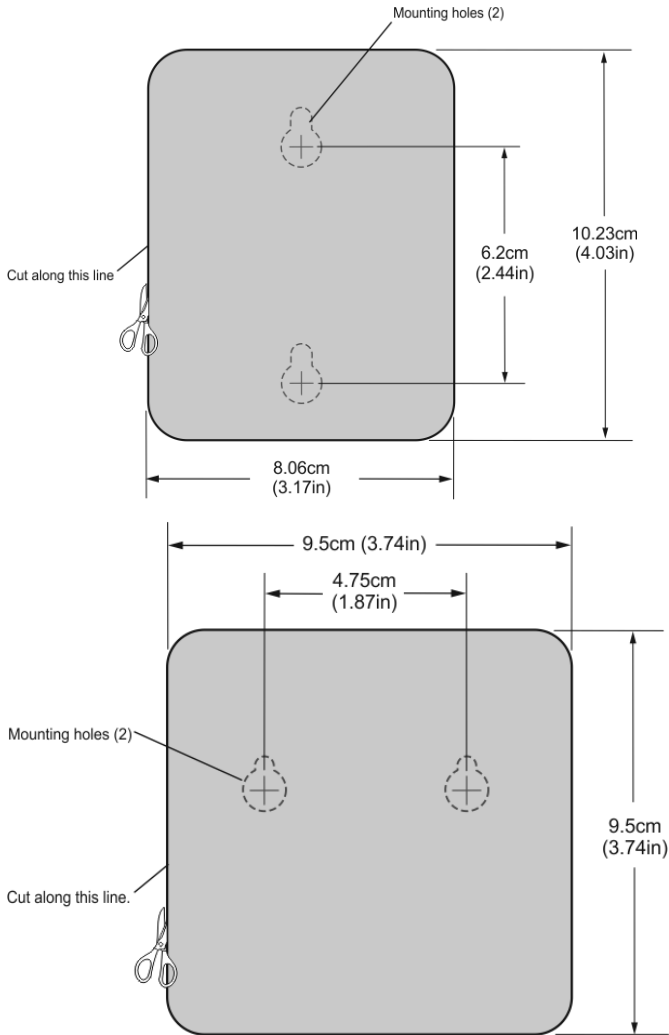

Figure 10: Drilling Pilot Holes in the Center of the Mounting Holes. Not to scale
Note: The diagrams shown below in Figure 10 are not to scale and you should download the scale drawings from our Web site.
3. Drill pilot holes into the wall or furniture through each of the mounting-hole centers on the template, (see Figure 10).